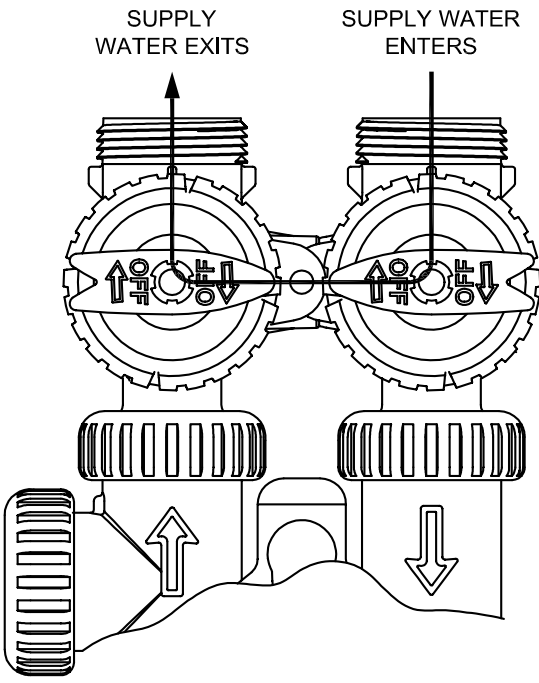

Figure 3
3. **Diagnostic Position:** The inlet handle points in the direction of flow and the outlet handle points to the center of bypass valve, system water pressure is allowed to the control valve and the plumbing system while not allowing water to exit from the control valve to the plumbing. (See Figure 3)